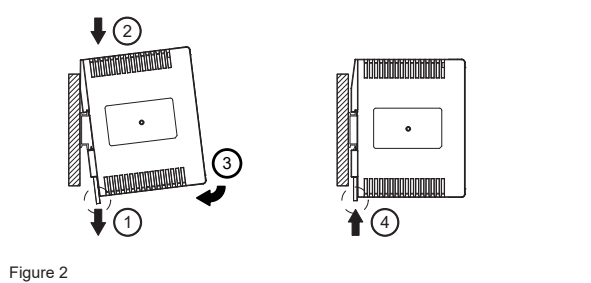

Figure 2
3. Montage (Abb. 2)
Einrasten des Geräts in DIN-Schienen, wie in Abb. 2 dargestellt:
3. Mounting (Fig. 2)
Each device is delivered ready to install. Snap on the DIN rail as shown in Fig. 2.